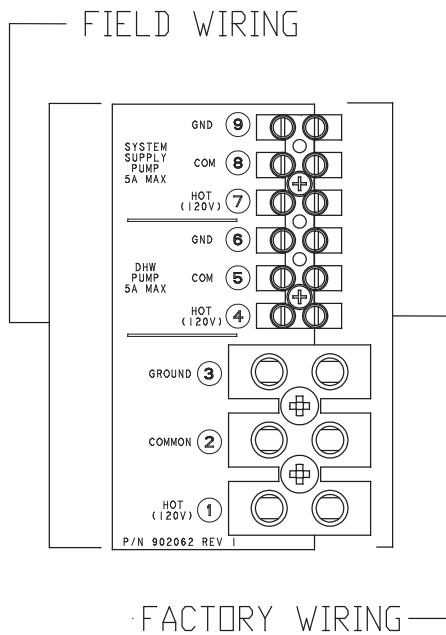
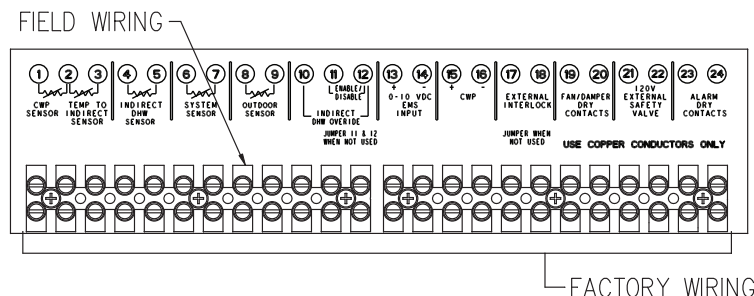

Fig. 20: Wiring Electrical Connections
Fig. 25: Low Voltage Field Wiring
All high voltage wiring connections to the MVB heater are made inside the rear wiring box as shown in Fig. 20. Power for indirect DHW pump not exceeding 5 amps should be taken from terminals 4 (Hot), 5 (Com), and 6 (Gnd). Power for system pump not exceeding 5 amps should be taken from terminals 7 (Hot), 8 (Com), and 9 (Gnd). Power for boiler pumps 3/4 HP and smaller should be taken from terminals 1 (Hot), 2 (Com), and 3 (Gnd), and must be routed through the pump contactor; 30A supply is required. Power for pumps larger than 3/4 HP must be a separate circuit wired through the pump contactor. Power to the MVB heater should be connected to terminals 1, 2, and 3 as noted in Fig. 20. All low voltage wiring, including sensors, interlocks, enable/disable, and various options are wired into terminals 1–24 on the front wiring panel as noted in Fig. 25.
Connect the Enable/Disable wiring to the field wiring terminal (shown in Fig. 25). Alternately, any dry contact
2. If using an Outdoor Sensor (option B-32), connect the sensor wires to the terminals marked OUTDOOR SENSOR (see Fig. 25). Caution should be used to ensure neither of these terminals becomes connected to ground.
4. Connect an Energy Management system or other auxiliary control signal to the terminals marked 0-10V (+ /-) on the field wiring terminals (see Fig. 25). Caution should be used to ensure that the +0-10V connection does not create a short to ground.
3. Connect the system supply sensor to terminals 6 and 7 on the field wiring strip located on the Master PIM™ (See Fig. 25).
4. Connect the Outdoor sensor (if used) to terminals 8 and 9 on the field wiring strip located on the Master boiler (See Fig. 25).
- Connect the Enable/Disable wiring to terminals 11 and 12 on the field wiring strip located on the Master boiler (See Fig. 25). This connection must be provided through dry contacts closure.
An alarm annunciator or light may be connected to the alarm contacts on the field wiring terminals. The Alarm Contacts are 3A rated dry contacts on a normally-open relay that close during fault or lockout conditions, and the maximum voltage across the contacts is 30 VAC or 30 VDC. See the Field Wiring as shown in Fig. 25.